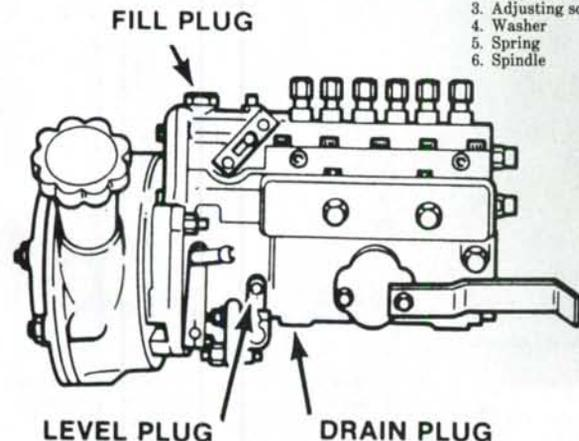

Fig. 116—View showing location of filler plug, oil level plug and drain plug on inline injection pump used on six-cylinder engines.
**140. PUMP LUBRICATION.** The inline injection pump used on these models contains an oil reservoir for lubrication of pump rotating parts. The oil must be drained and renewed after every 100 hours of operation when engine oil is changed. Recommended oil is same grade and viscosity as used in engine. Add oil through fill plug (Fig. 116) until it flows from level plug opening.